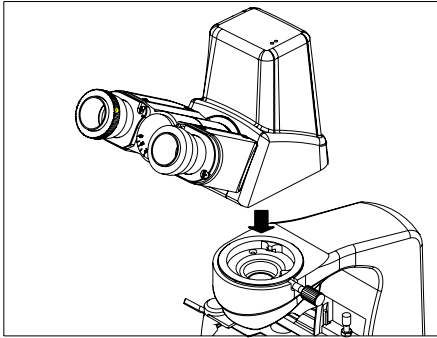

Fig.1
2.2.1 Installing digital viewing head (Fig.1、 2)